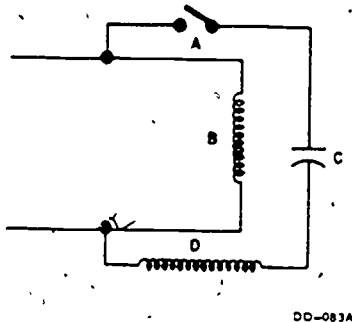

Figure 23
- Figures 23 and 24 are schematic drawings of two types of single-phase motors.
- Figure 23 is the schematic of a \_\_\_\_\_ motor.
- Major components of figure 23 are: